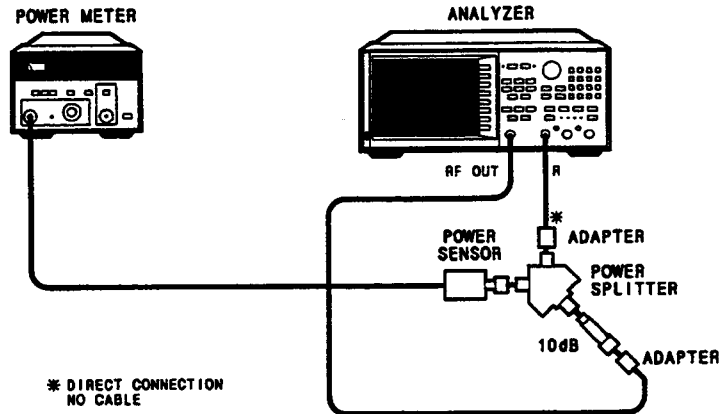

Figure 8. Absolute Amplitude Accuracy Test Setup (Input R)
1. Zero the power meter and set it to measure dBm. Connect the equipment as shown in Figure 8.
Suspect: poor tracking between the ports of the power splitter if all inputs fail. Suspect source drift if inputs A and B fail this test at any frequency; connect the equipment as shown in Figure 8, set the power level at the frequency of interest, and repeat the test for that input.